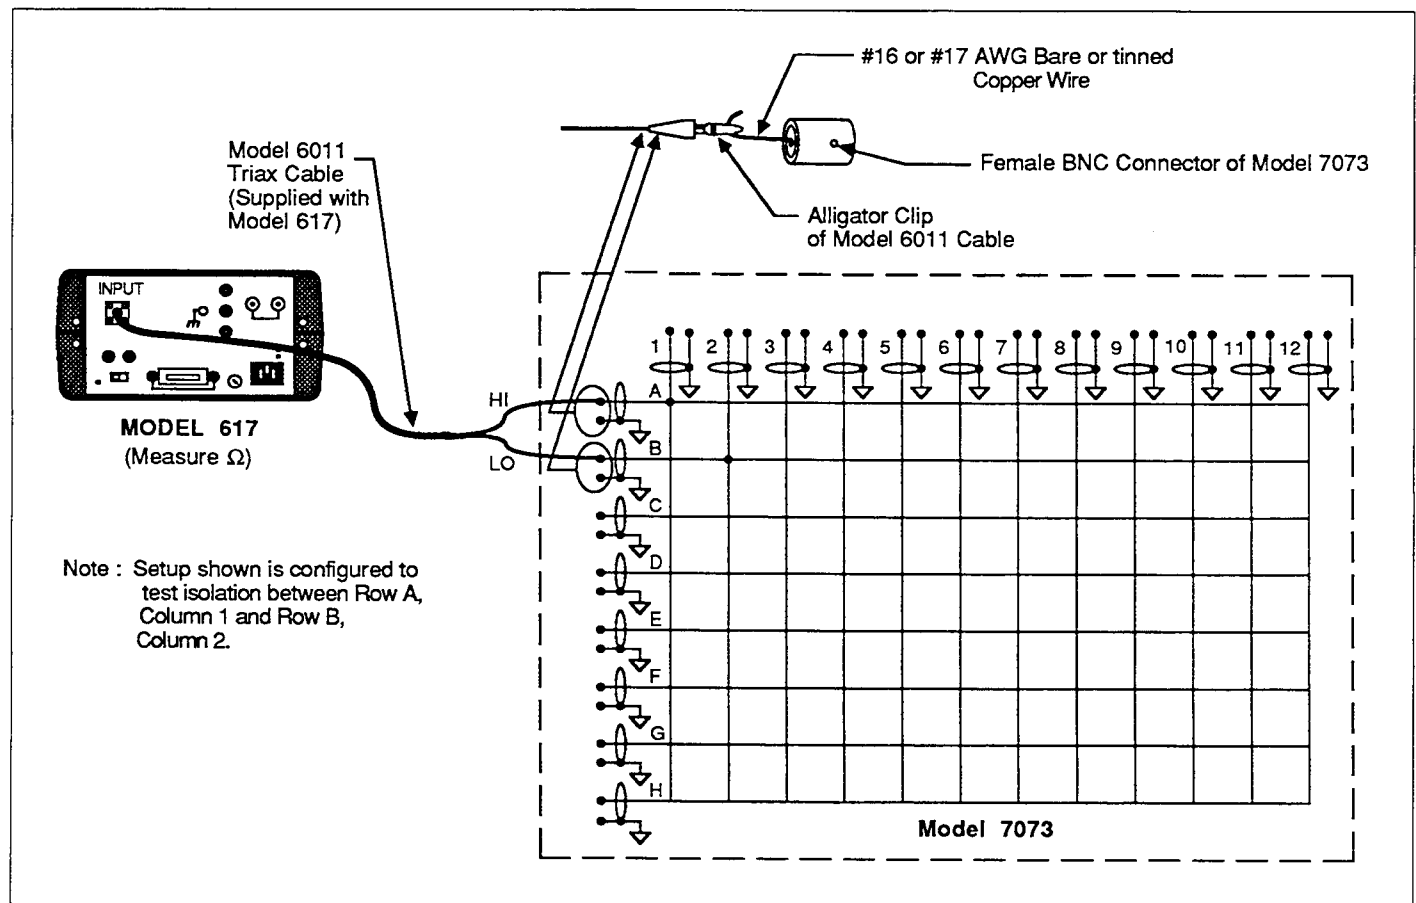

Figure 4-5. Path Isolation Testing
Referring to Figure 4-5, perform the following procedure to check path isolation:
5. Connect the Model 617 to the matrix card as shown in Figure 4-5.